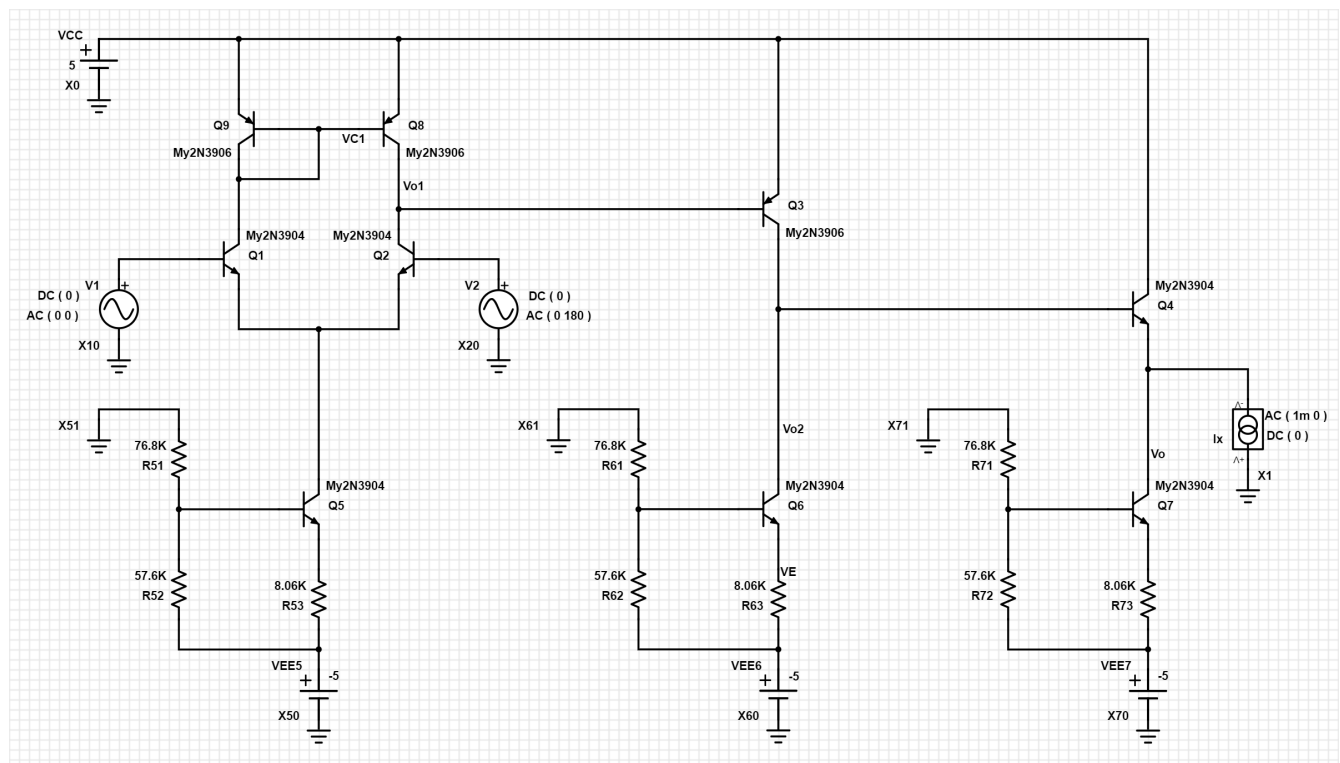

Fig. 1 Schematic diagram of the directly coupled (DC), multi-stage operational amplifier
- 1.1 In PartSim (or LTspice), construct the Op-Amp, as shown in Fig. 1, using the common-emitter (CE) amplifier from Lab 2, the common-collector (CC) amplifier, and differential amplifier with a current mirror load from Lab 3. Here I_x is a current test source used to characterize the output resistance of the Op-Amp.
- 1.2 **Voltage Gain:** Set the DC values of V_1 and $V_2 = 0$ V, and their AC amplitude 1 mV. Set the DC and AC values of the test current source I_x to zero. For differential mode signal, set the phases of the AC signal V_1 and V_2 to be 0° and 180° , respectively, as shown in Fig. 1. In this setting, the differential-mode signal $v_{id} = V_1 - V_2 = 1 \text{ mV} - (-1 \text{ mV}) = 2 \text{ mV}$. Conduct AC analysis to obtain the base current i_{b1} of Q1, the voltages V_{o1} , V_{o2} , and V_o at the base of Q3, the base of Q4, and the emitter of Q4, respectively. Set the sweep type in DEC with Start Frequency = 100 Hz, Stop Frequency = 100 kHz, and Total Points Per Decade = 101. Choose REAL for magnitude unit and degree (DEG) for phase unit. Record the simulated magnitudes and phases of i_{b1} , V_{o1} , V_{o2} , and V_o in the sheet “Step 1.2” of the Excel file “Lab 4 – Feedback Circuit.xlsx”.
- 1.9 Based on Fig. 1, construct the measurement setup for an operational amplifier using the common-emitter (CE) amplifier from Lab 2 and the common-collector (CC) and differential amplifiers from Lab 3.
- 1.11 **DC Offset Vltage:** Based on Fig. 1, connect Waveform Generator Channel 1 (W1) to the input V_1 (the base of Q_1), Waveform Generator Channel 2 (W2) and Scope Ch. 1 Positive (1+) to the the input V_2 (the base of Q_2), and Scope Ch. 2 Positive (2+) to V_o (the emitter of Q_4). In WaveForms, click Workspace, open the provided workspace script “Lab4_Step1.11.dwf3work” and press Run. This script will set the offset voltage of Waven 1 (W1) to 0 V and gradually change the offset voltage of Waven 2 (W2) until the output voltage of the Op-Amp switching around 0 V. Record the measured offset voltage for V_+ (or Q_2) in the sheet “Step 1.11” of the Excel file “Lab 4 – Feedback Circuit.xlsx”.